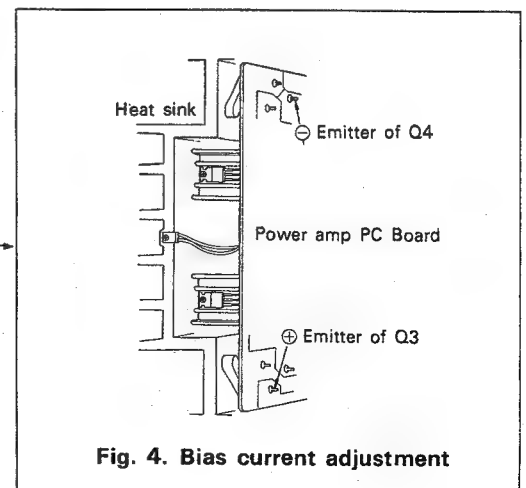

Fig. 4. Bias current adjustment
2. Connect the DC voltmeter between the emitters of Q3 and of Q4, as shown in Fig. 4.